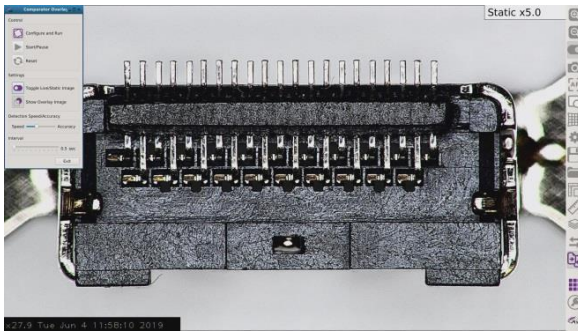
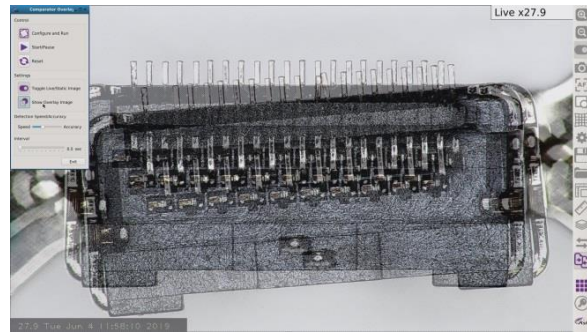

Fig. 42a Golden Sample
Fig. 42b Golden Sample & Test Sample Overlay
5. Open the Comparator App and select and open the ‘Golden Sample Part’ image (Fig. 42a). An Overlay image (Fig 42b) allows the alignment of both the ‘Golden Sample’ and the next sample to be compared. Exact alignment is not required as the app can adjust for any misalignment up to 30° rotation or X-Y movement around the FOV.